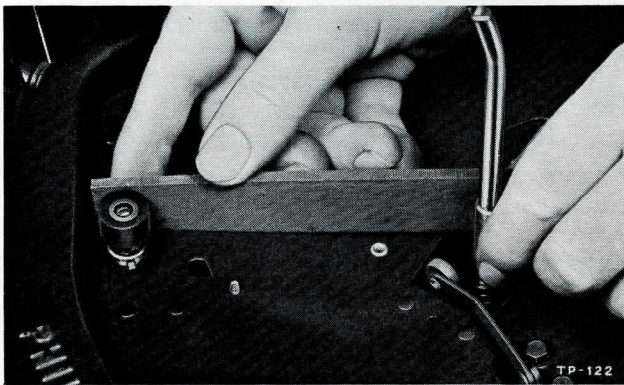

FIGURE 18. DRESSING TURNTABLE DRIVE WHEEL
31. Dress the turntable drive wheel with the file held lightly against it, as shown in figure 18. Dress it just enough to remove any flat spots or bumps. Turn the operating switch to OFF, and replace the turntable.